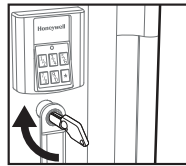

Figure 3
3. Gently press down on shelf until level and secure (Figure 3).